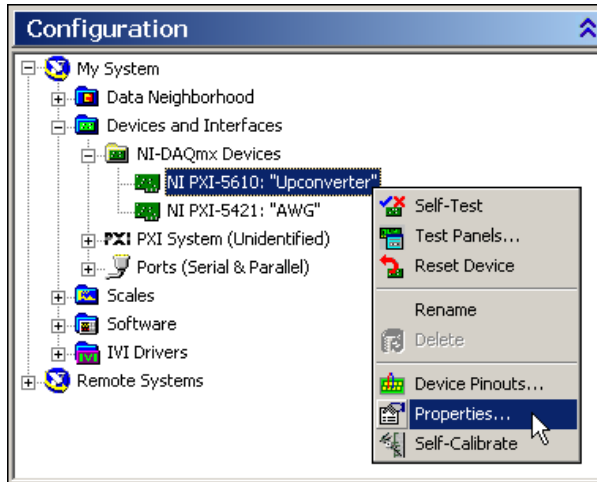

Figure 1-18. Select Properties from the NI PXI-5610 Right-Click Menu
15. Right-click **NI PXI-5610** and select **Properties** as shown in Figure 1-18.